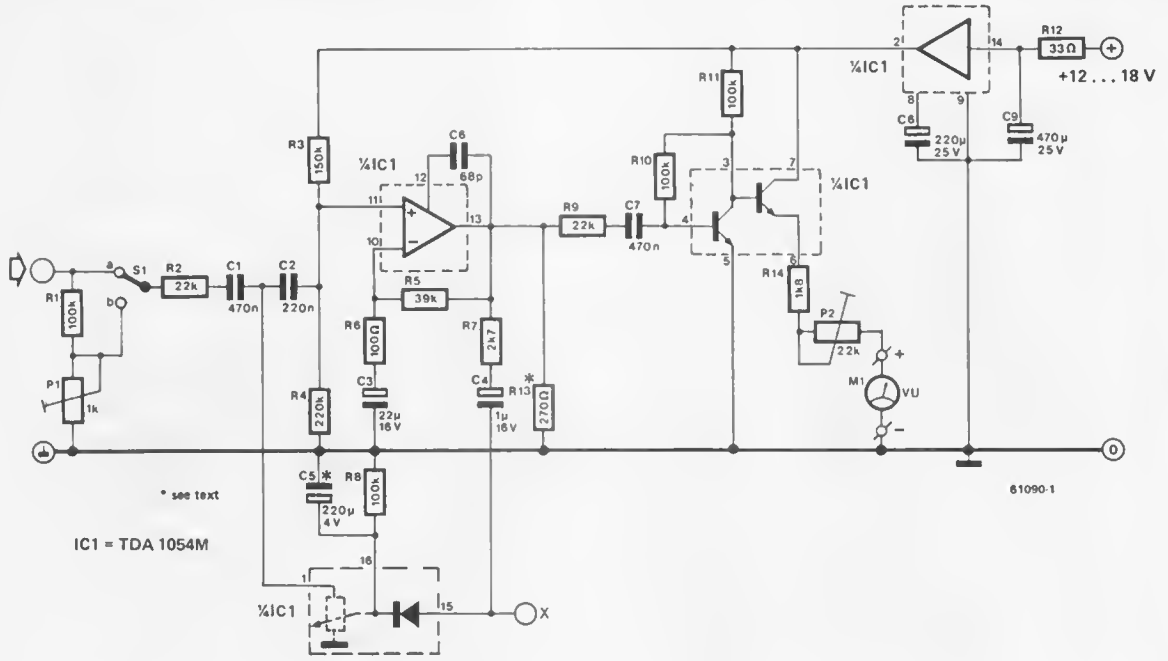
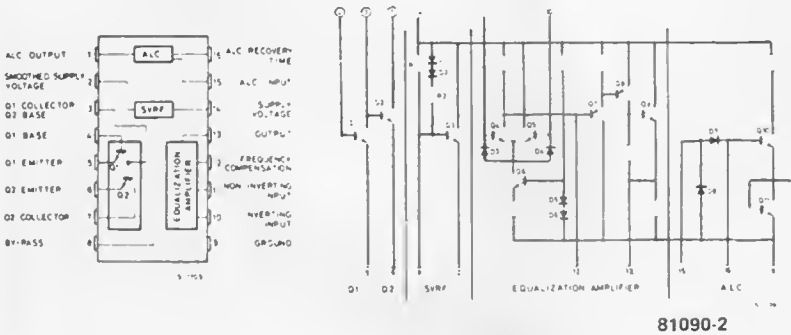

Figure 1. The circuit diagram of the level meter.
Figure 2. The TDA 1054M consists of several subsidiary circuits.
Construction shouldn't present any problems — certainly when using the board layout shown in figure 2.
The circuit of the level meter (see figure 1) makes full use of the 'multi-function' TDA 1054M (SGS-Ates).
The internal structure of this device is given in figure 2. As can be seen from figure 1, the signal enters the system via switch S1. This switch is incorporated so that the meter can be used to measure the output amplitude of the amplifier in dBs. The automatic level control section of the TDA 1054M is used as a variable resistor connected between the junction of C1/C2 and ground. The 'value' of this resistor will depend on the amplitude of the signal at pin 13 of the IC, which in fact is the output of the compressor circuit. This signal is rectified before being fed to the variable resistor. In this manner the variable resistor effectively a 'controllable' potential divider with R2. The output of the compressor is also fed to a (two) transistor amplifier stage before being fed to the (VU) meter.